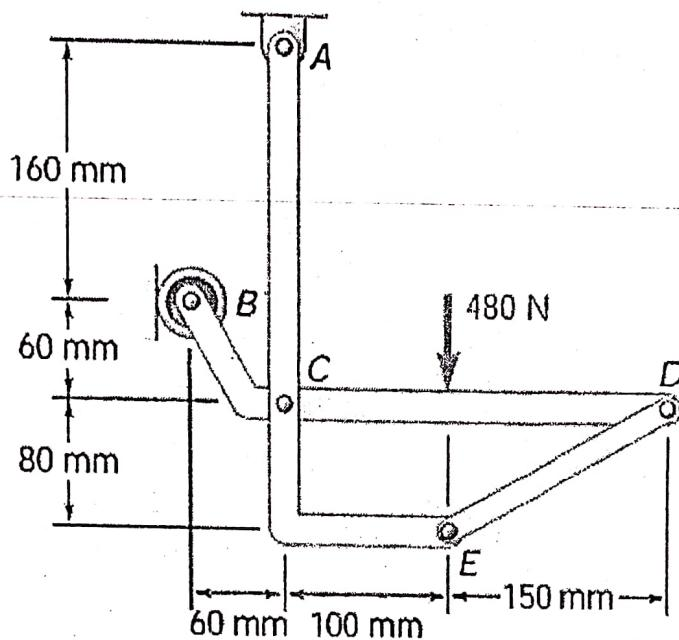

Figure Q 7 (b)
- (b) In the frame shown in **Figure Q 7 (b)**, members ACE and BCD are connected by a pin at C and by the link DE. For the loading shown, determine the force in link DE and the components of the force exerted at C on member BCD. (5)